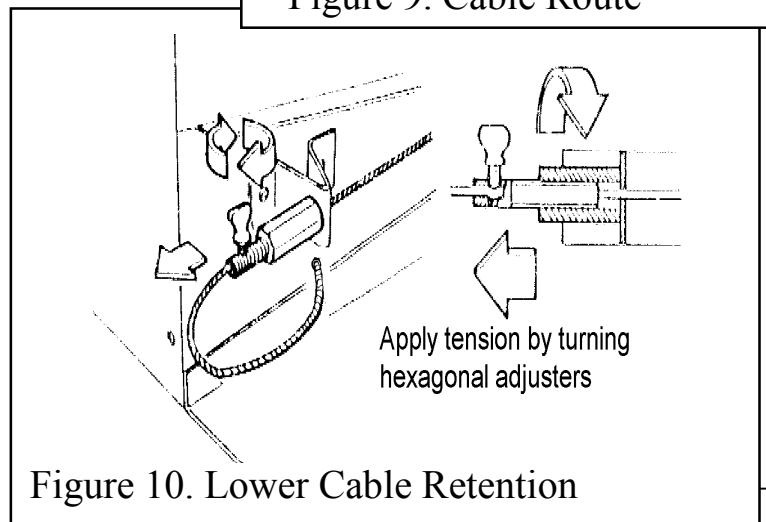

Figure 10. Lower Cable Retention
9. Pull each cable taut. Push the cable retainers hard up against the "V" brackets. Tighten the screws in the retainers so that they clamp the cables in position. Apply tension to the cables by turning the hexagonal adjusters by hand. See figure 10.